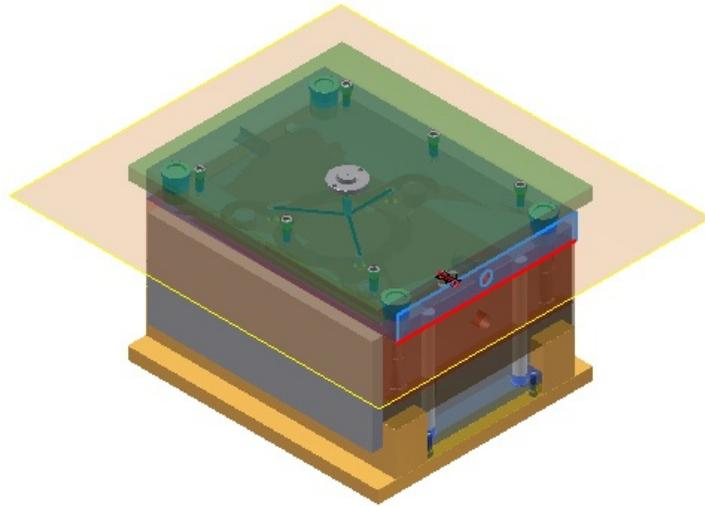

Figure 19-92 The face to be selected
2. Select the face shown in Figure 19-92; the preview of the cooling channel is displayed.
4. Select the right vertical edge of the plane highlighted in Figure 19-92; the distance value is displayed with dimension line on the model and you are prompted to select a horizontal reference.
5. Select the top horizontal edge of the plane highlighted in Figure 19-92; the distance value is displayed.